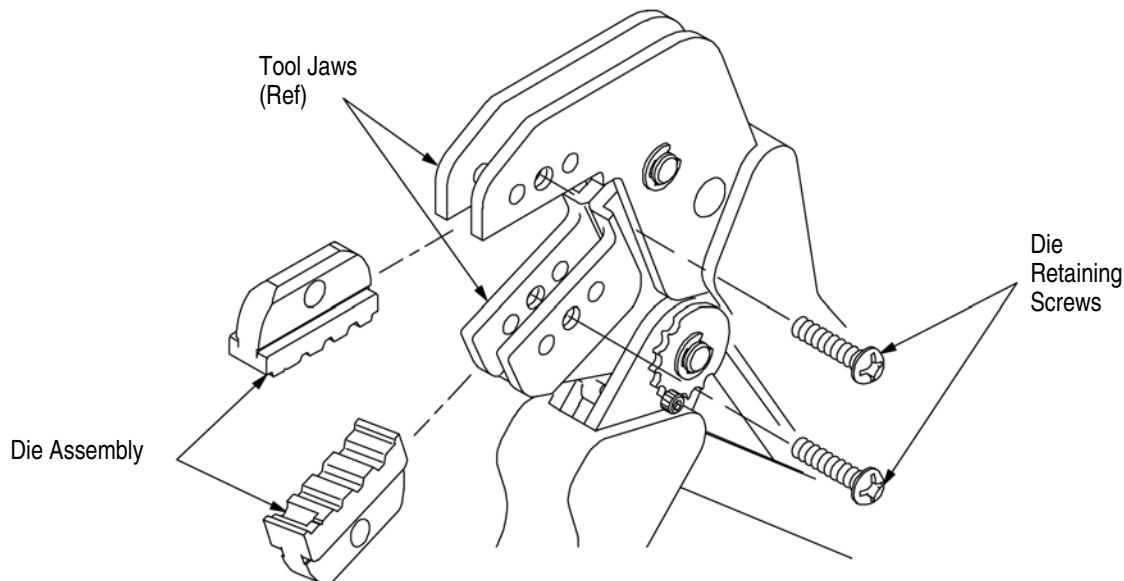

Figure 2
2. Insert the dies into the tool as shown in Figure 2 and align the retaining holes in each die with the associated holes in the tool frame.